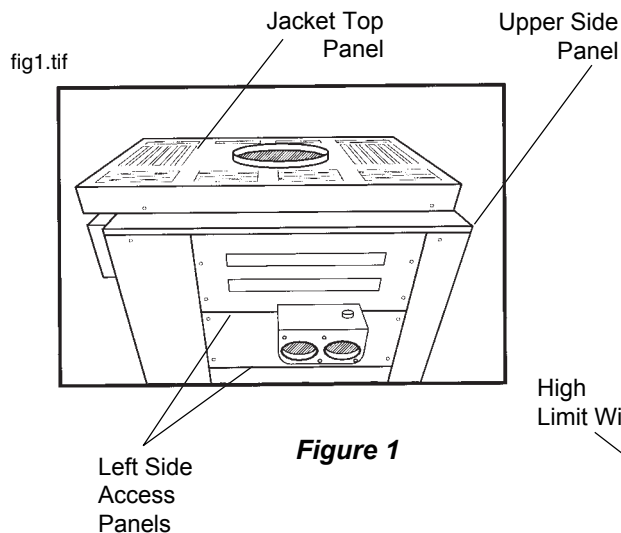

Figure 1
1. Remove the jacket top, upper side panels, right and left side access panel (see figure 1).